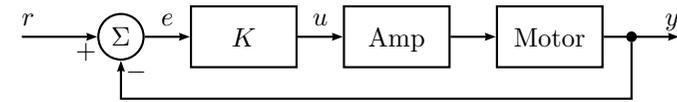
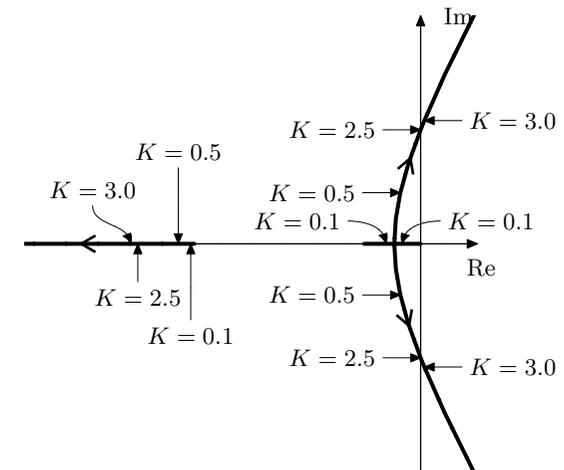
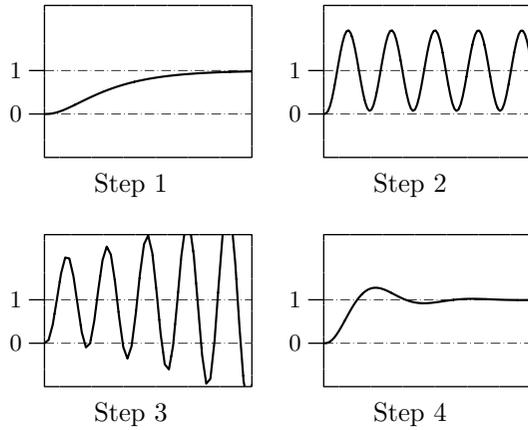

Figure 2.2a
Figure 2.2b
Figure 2.2c. All comparable axes have equal scaling.
2.2 A servo system for positioning of a tool in a tooling machine is depicted in Figure 2.2a. In Figure 2.2b, the poles of the closed loop system are plotted for different values of the gain K . Find (without calculations), for each of the step responses in Figure 2.2c, the corresponding value of K used when generating the step response.